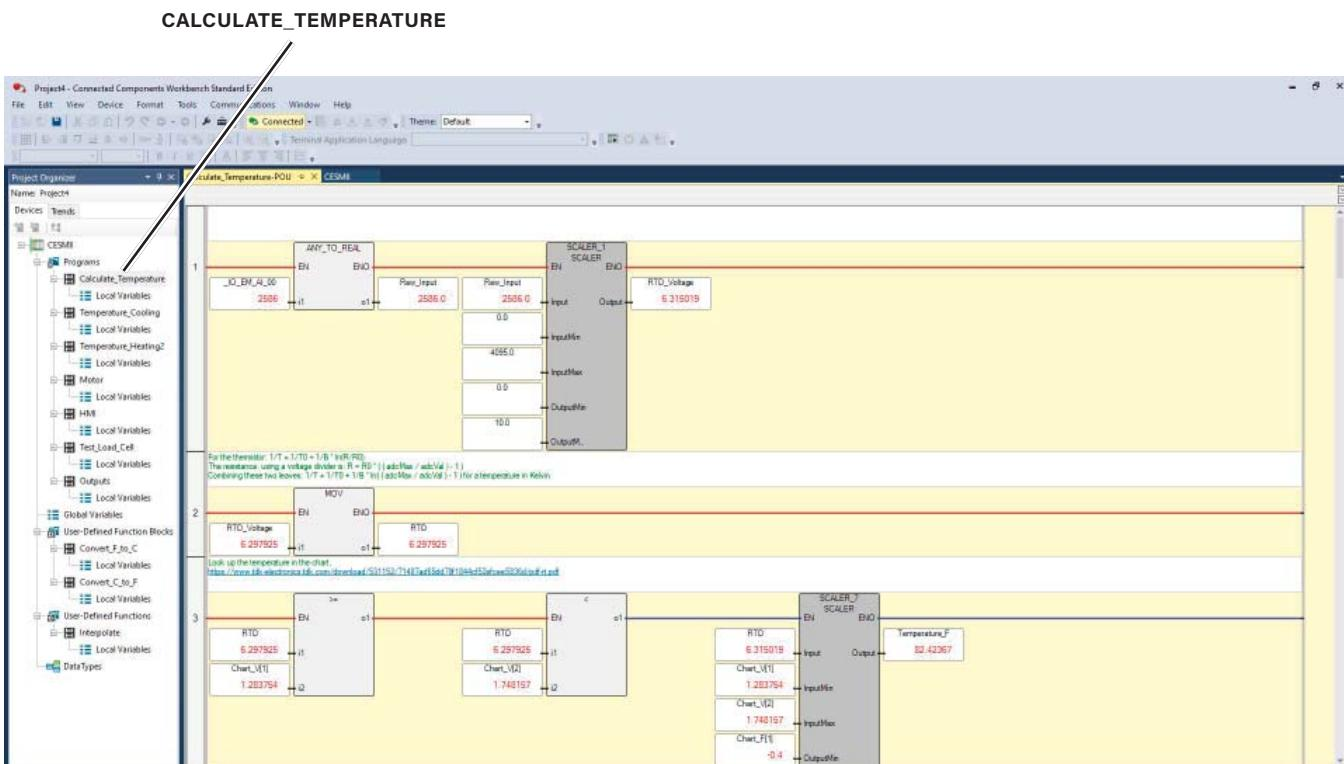

Figure 1-23. CCW Displaying Ladder Logic
H. Right click on Calculate_Temperature and select **Open**. This will open the PLC program titled Calculate Temperature, similar to that in figure 1-23.